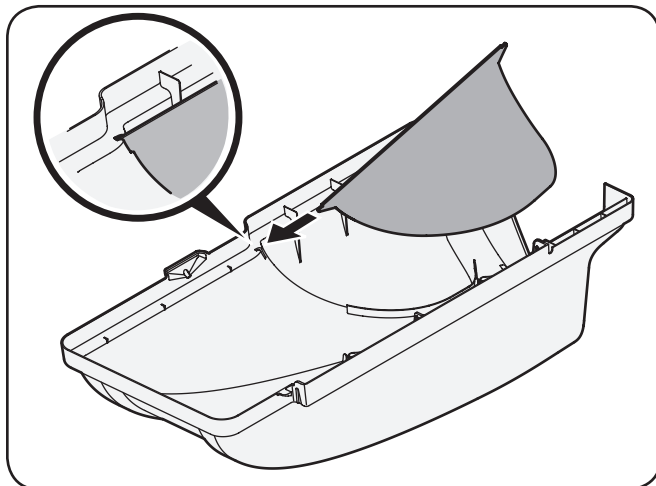
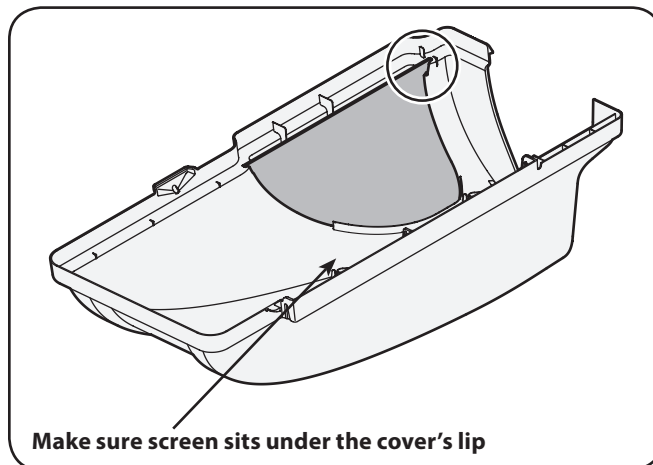

Figure 4-8
Figure 4-9
3. If not previously installed by the factory, install the bagger screen into the bagger cover by first inserting the end closest to the center into the cutout mounting hole, as in Figure 4-8. Make sure to feed the screen under the lip, as in Figure 4-9.
4. Clip in the other side by flexing the screen and pushing it down into the provided cutout hole. See Figure 4-9.